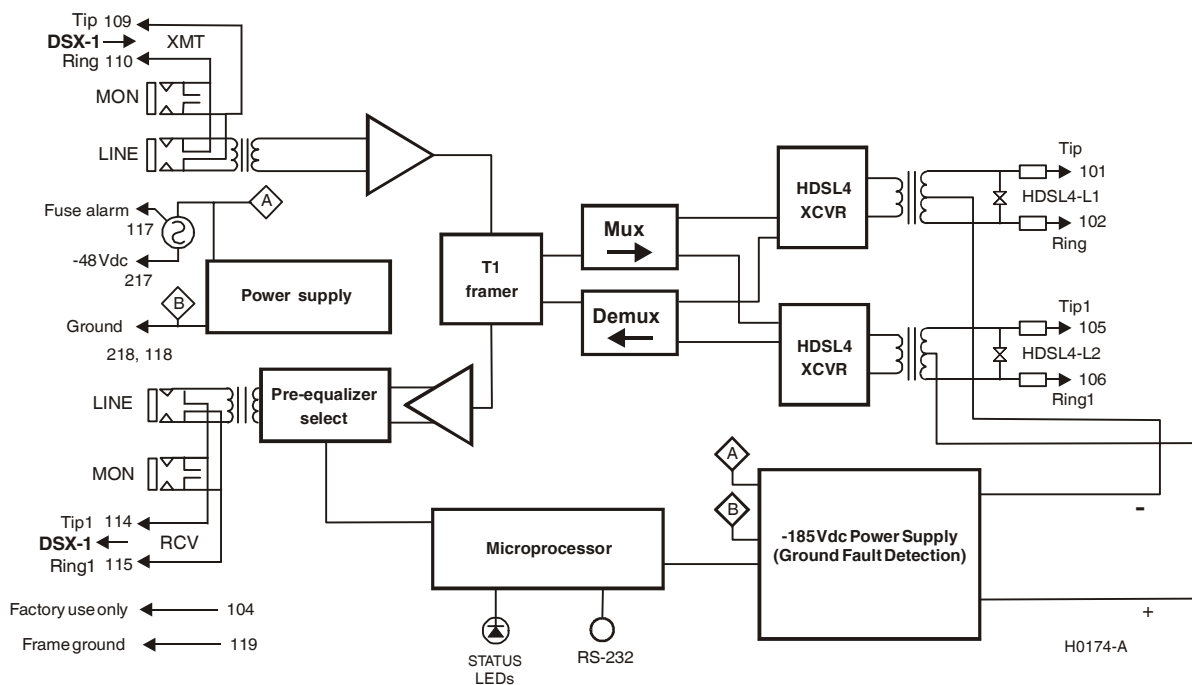

Figure 34. H4TU-C Block Diagram
A block diagram of the H4TU-C is shown in Figure 34. The H4TU-C receives a 1.544 Mbps DSX-1 data stream from the DSX-1 digital cross-connect interface. The H4TU-C contains a DS1 frame synchronizer controlled by an 8-bit microprocessor that determines the type of framing on the DS1 stream and synchronizes to it. The H4TU-C recognizes SuperFrame (SF), including D4, or Extended SuperFrame (ESF) framing. When the data is unframed, the H4TU-C arbitrarily defines a frame bit.